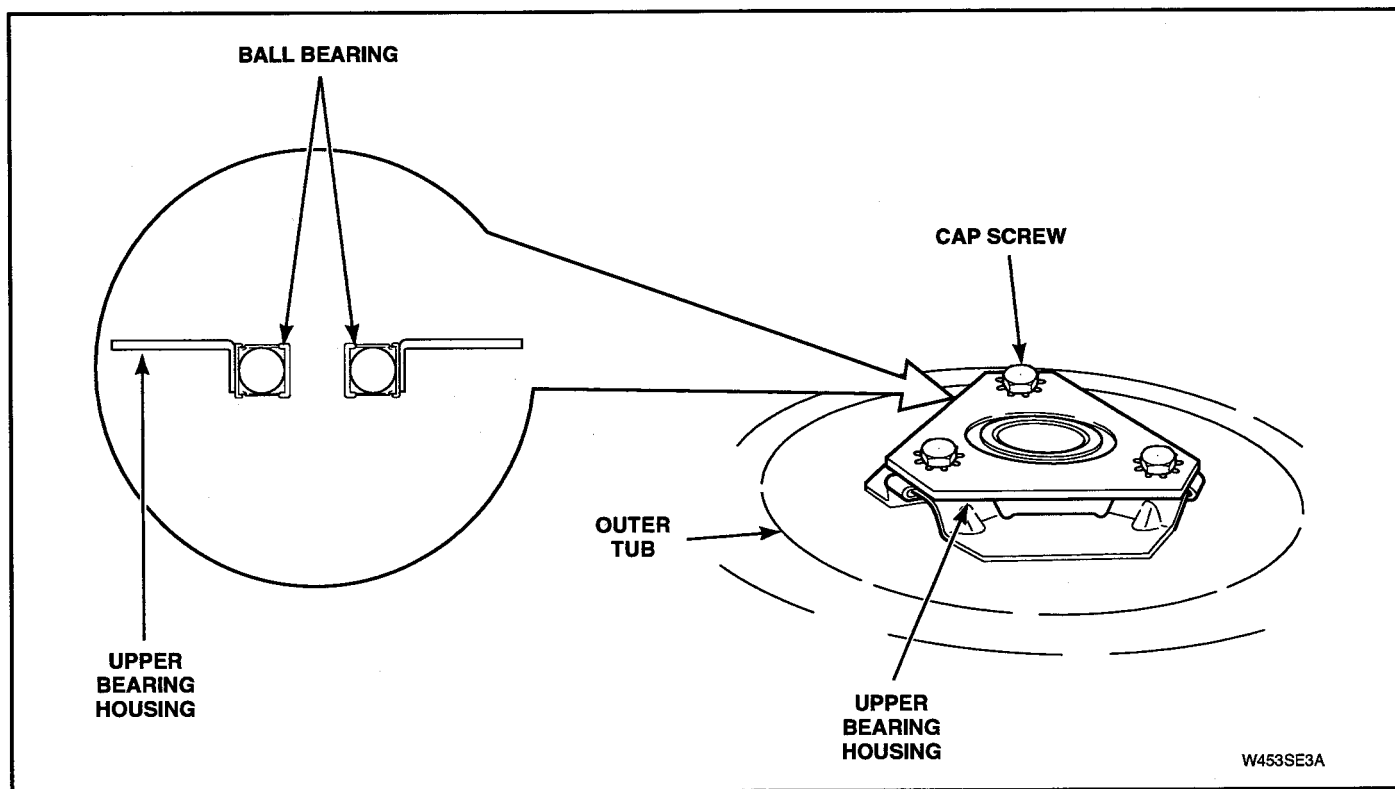

Figure 5-42
- Remove three screws holding upper bearing and housing to bottom of outer tub. See Figure 5-42.